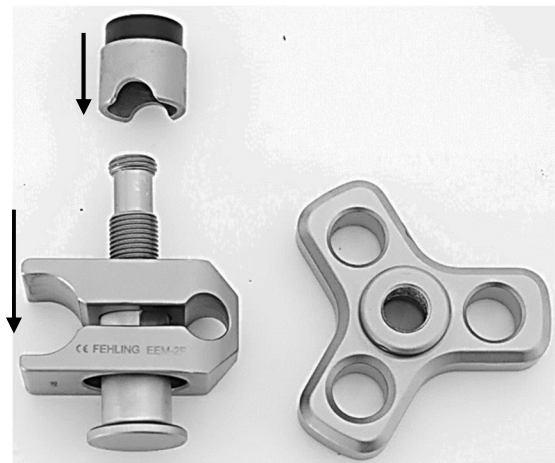

Fig. 6
As illustrated in Figure 6, first insert the clamping piece (3) and then the clamping sleeve (2) over the threaded rod (4). Please observe the following notes!